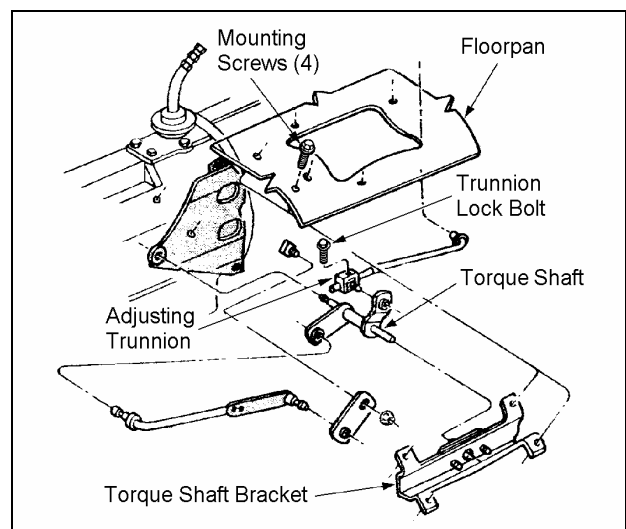

Figure 19
- 2) ☐ Remove the four screws that attach the torque shaft bracket to the floor pan. See figure 19.